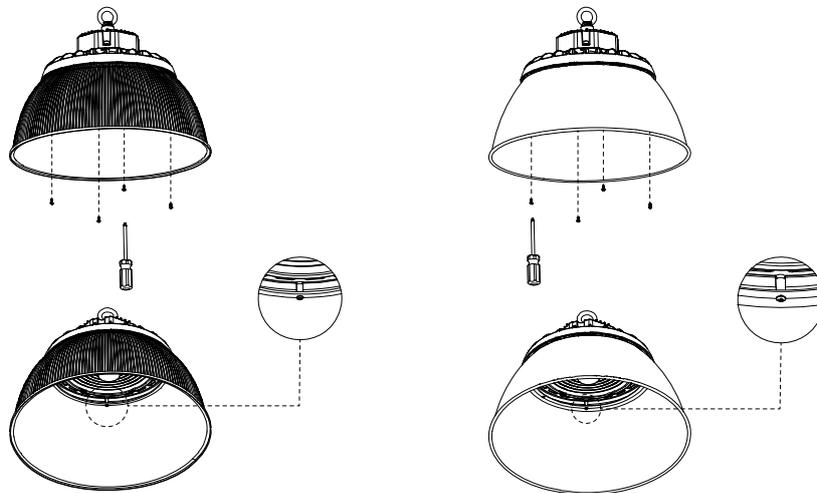

Figure 14
step2. Installation complete. (Figure 14)